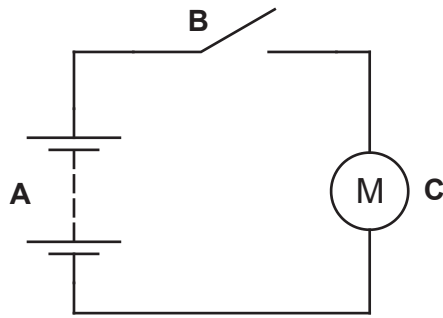

Fig. 8.1
- 8 Fig. 8.1 shows a simple electronic circuit.